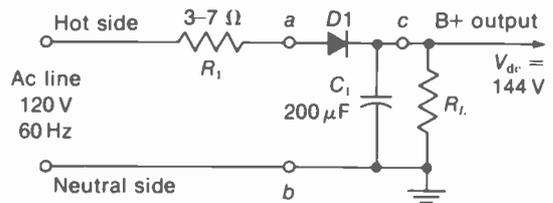

FIGURE 12-8 LINE-CONNECTED HALF-WAVE RECTIFIER, WITH FILTER.
**Line-connected half-wave rectifier.** No power transformer is used in Fig. 12-8 for the typical case of a half-wave power supply that is not isolated from the power line.  $C_1$  is the filter capacitor to remove the 60-Hz ac ripple from the dc output voltage. The capacitor input filter is necessary to provide dc output voltage during the time when the diode is not conducting.
**Effects of the filter capacitor.** In Fig. 12-8,  $C_1$  charges fast through the very low resistance of the rectifier diode when it conducts, but discharges slowly through the load resistance. As a result,  $C_1$  maintains the dc output voltage during the half-cycle when the diode is not conducting. In this process of fast charge and slow discharge, the filter capacitor has the following effects:
The waveforms in Fig. 12-9 illustrate the diode operation with the input filter capacitor. In  $a$ , the sine-wave voltage is shown for the ac input across terminals  $a$  and  $b$  in Fig. 12-8. Note that 120 V is the rms value of the sine wave, while the peak value is  $1.4 \times 120 = 168$  V.
voltage is labeled  $V_{cb}$  between points  $c$  and  $b$  in Fig. 12-8. Assume the circuit has been operating for a few cycles of the ac input to charge  $C_1$ . Then the diode is forward-biased just for the time from  $T_1$  to  $T_2$ . Only during this period does the ac input voltage make the diode anode more positive than the dc output voltage at the cathode. Remember that positive voltage at the diode cathode is reverse voltage that prevents conduction.